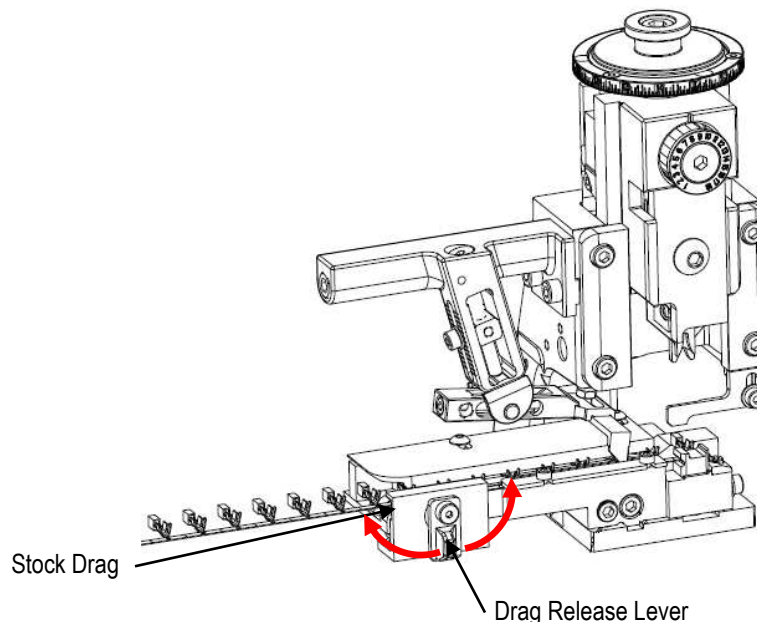

Figure 10
4. Raise the Stock Drag by turning the Drag Release Lever *upward*. Remove a length of the terminal strip left in the applicator by grasping the terminals at the strip guide entry, raising the Feed Pawl, and pulling the strip straight out of the applicator (see Figure 10).